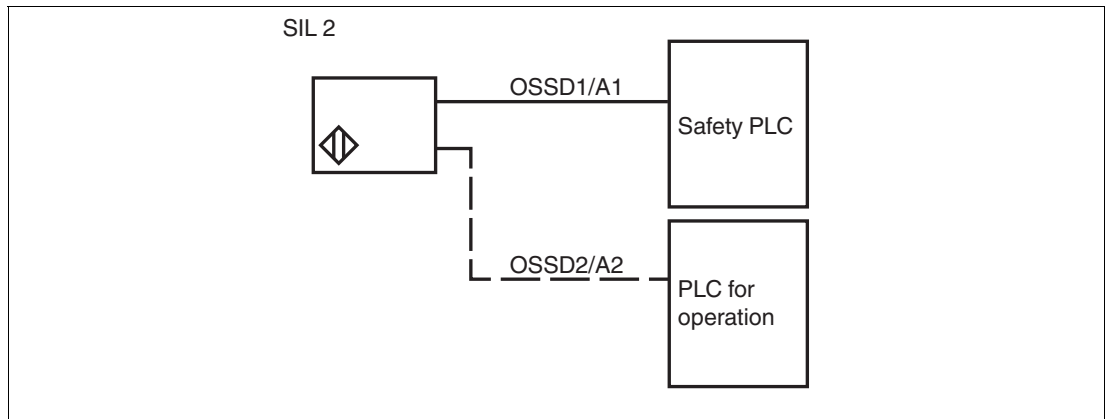

Figure 4.5 Example of a safety loop via the OSSD1 output
- If you are using the sensor in a safety loop for SIL 2, connect the sensor via the OSSD1 output, see Figure 4.5. The OSSD2 output is not used for the safety function. Protect possibly not connected output lines against short circuit.